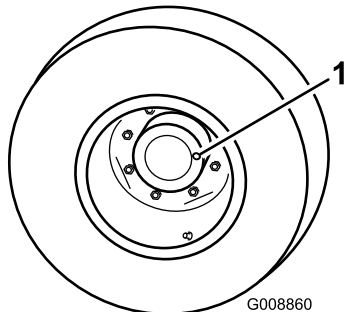

Figure 48
1. With the machine on level surface, position the wheel so that one check plug (Figure 48) is at the 12 o'clock position and the other is at the 3 o'clock position.
1. Check/drain plug (2)
2. Remove the plug at the 3 o'clock position (Figure 48).